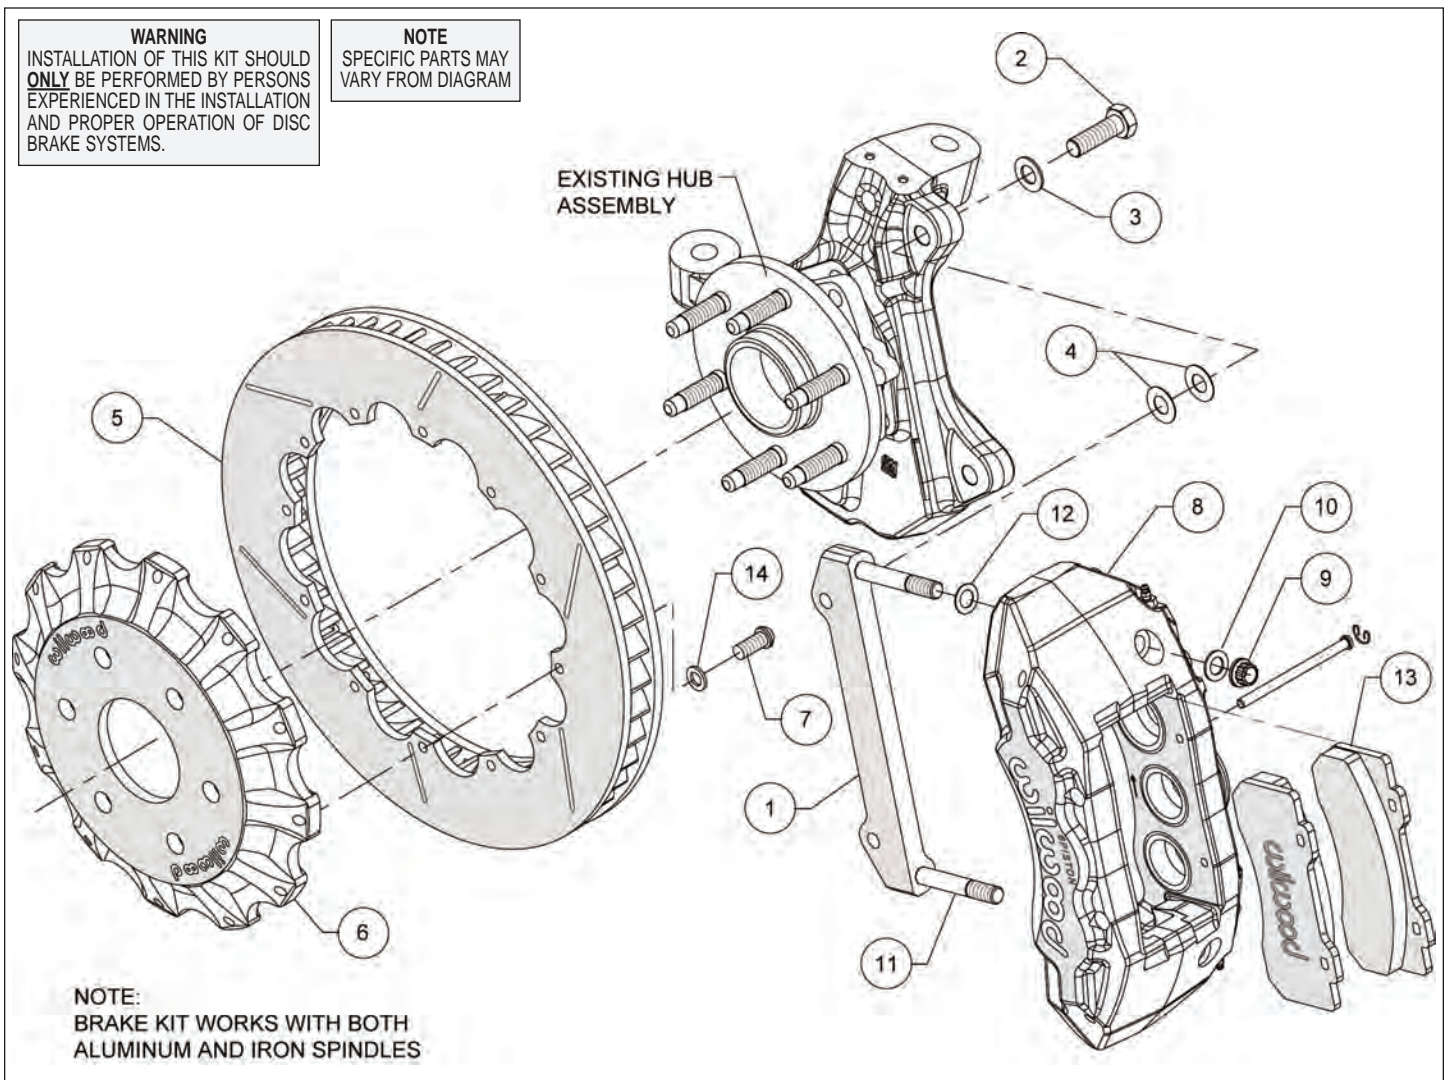

Figure 1. Typical Installation Configuration
**Assembly Instructions** (numbers in parenthesis refer to the parts list and Figure 1 on the preceding pages):
- The caliper mount bracket (1) should initially be installed with clean, dry threads on the mounting bolts. Orient the bracket as shown in Figure 1 and Photo 1, and install using bolts (2) and washers (3). Initially place two .029 thick shims (4) on each bolt between the bracket and upright, Figure 1. Temporarily tighten the mounting bolts. **NOTE:** *The bracket must fit squarely against the mount bosses on the upright.* Inspect for interference from casting irregularities, machining ridges, burrs, etc. Later, after the caliper alignment has been checked, the mount bolts will be secured using red *Loctite*® 271.
- Orient the rotor (5) and the hat (6) as shown in Figure 1 and Photo 2. Attach rotor to hat using bolts (7) and washers (14). Using an alternating sequence, torque to 25 ft-lbs.
- NOTE:** *This kit contains distinct right and left hand calipers that must be mounted in a specific direction, as described below.* Lubricate the caliper mounting studs (11) with lightweight oil. Initially place one .032" thick shim (12) on each stud as shown in Figure 1 and Photo 3. Mount the caliper (8) onto the bracket (1) using lock nuts (9) and washers (10), Figure 1. Ensure that the caliper is mounted so that the largest pistons are at the rotor exit end of the caliper, in relation to the direction of rotor rotation. Temporarily tighten the lock nuts and view the rotor through the top opening of the caliper. The rotor should be centered in the caliper, Photo 4. If not, adjust by adding or subtracting shims (4) between the bracket and the upright. Always use the same amount of shims on each of the two mounting bolts. Once the caliper alignment is correct, remove the bracket mounting bolts (2) one at a time, apply red *Loctite*® 271 to the threads, and torque to 77 ft-lb.